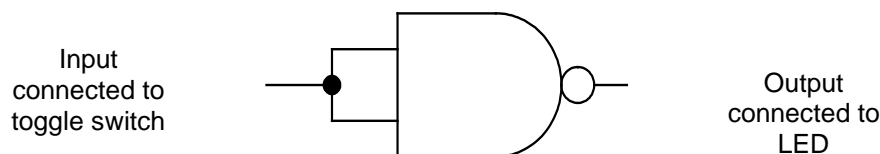

Figure 6. NAND gate equivalent circuit of an inverter
- 5.4.1 **NOT from NAND:** Connect the circuit shown in Figure 6. Connect a toggle switch to the circuit input and an LED to the output. Verify that the circuit is an inverter by setting the input switch to 0 and then 1 and observing the output LED.